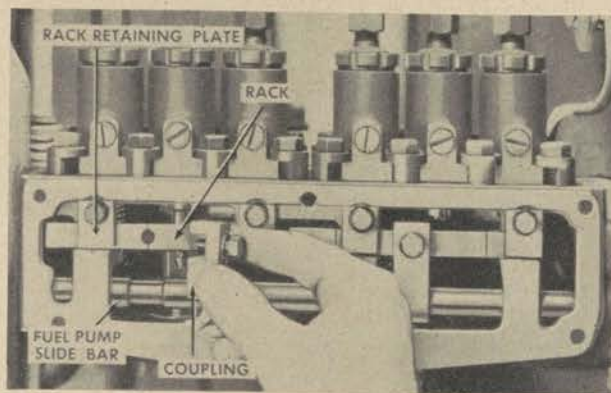

Figure 174. Installing rack and slide bar coupling.
5. Install the rack retaining plates (fig. 174) and capscrews. After installing the plates, be sure the rack is absolutely free in the pump housing.
6. Pull back the throttle lever and install the coupling between the rack and the fuel pump slide bar. (See fig. 174.)